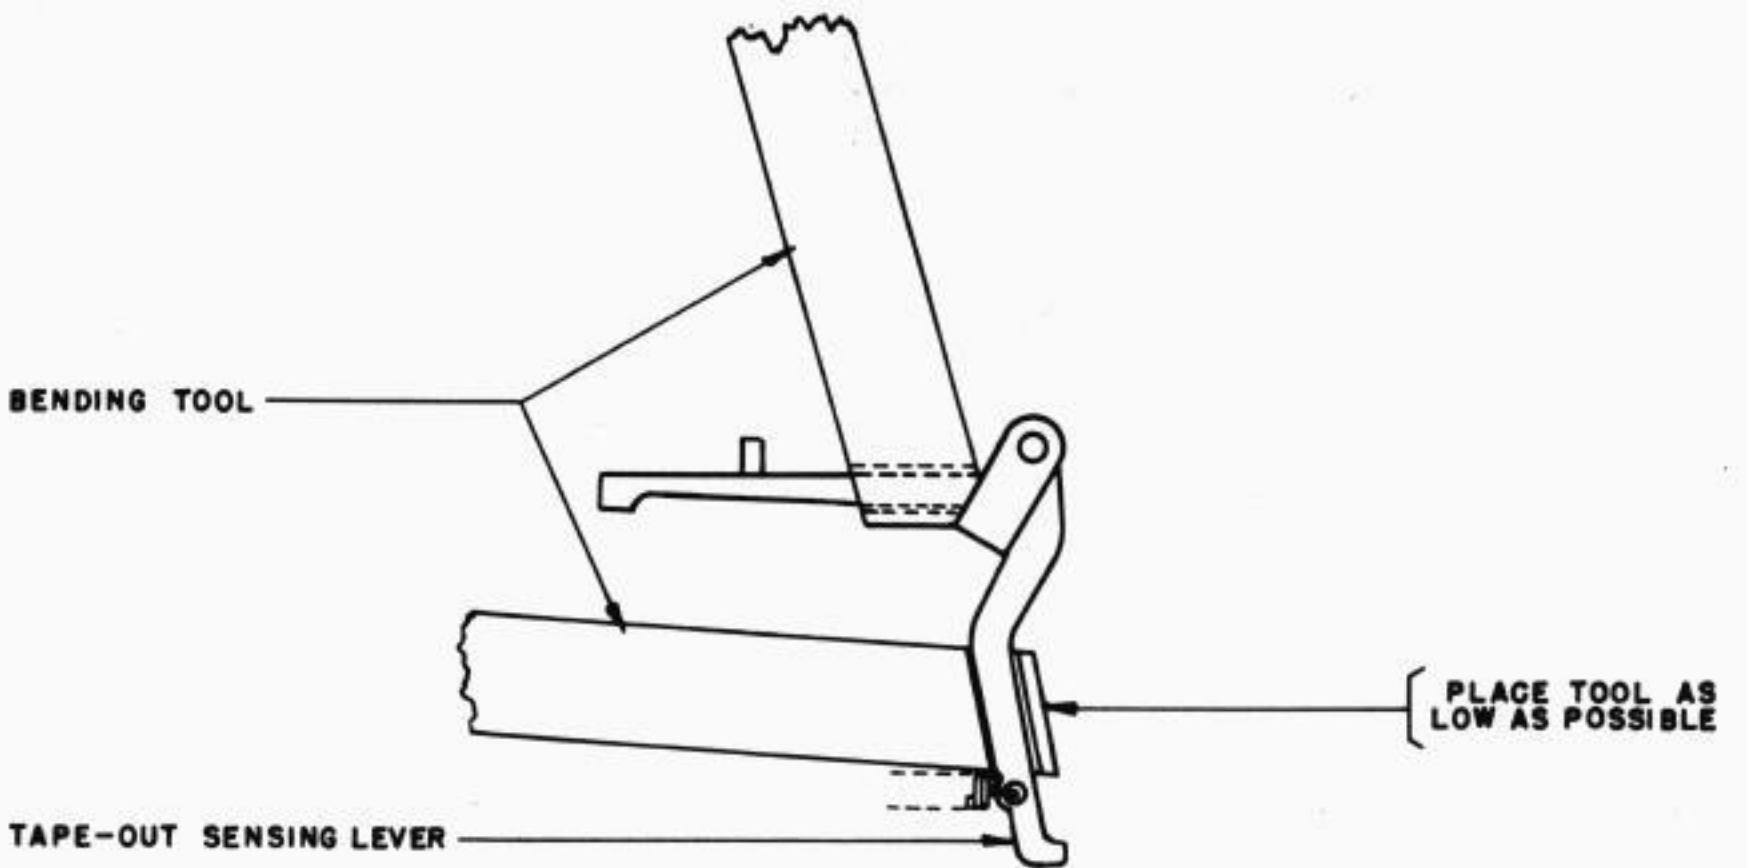
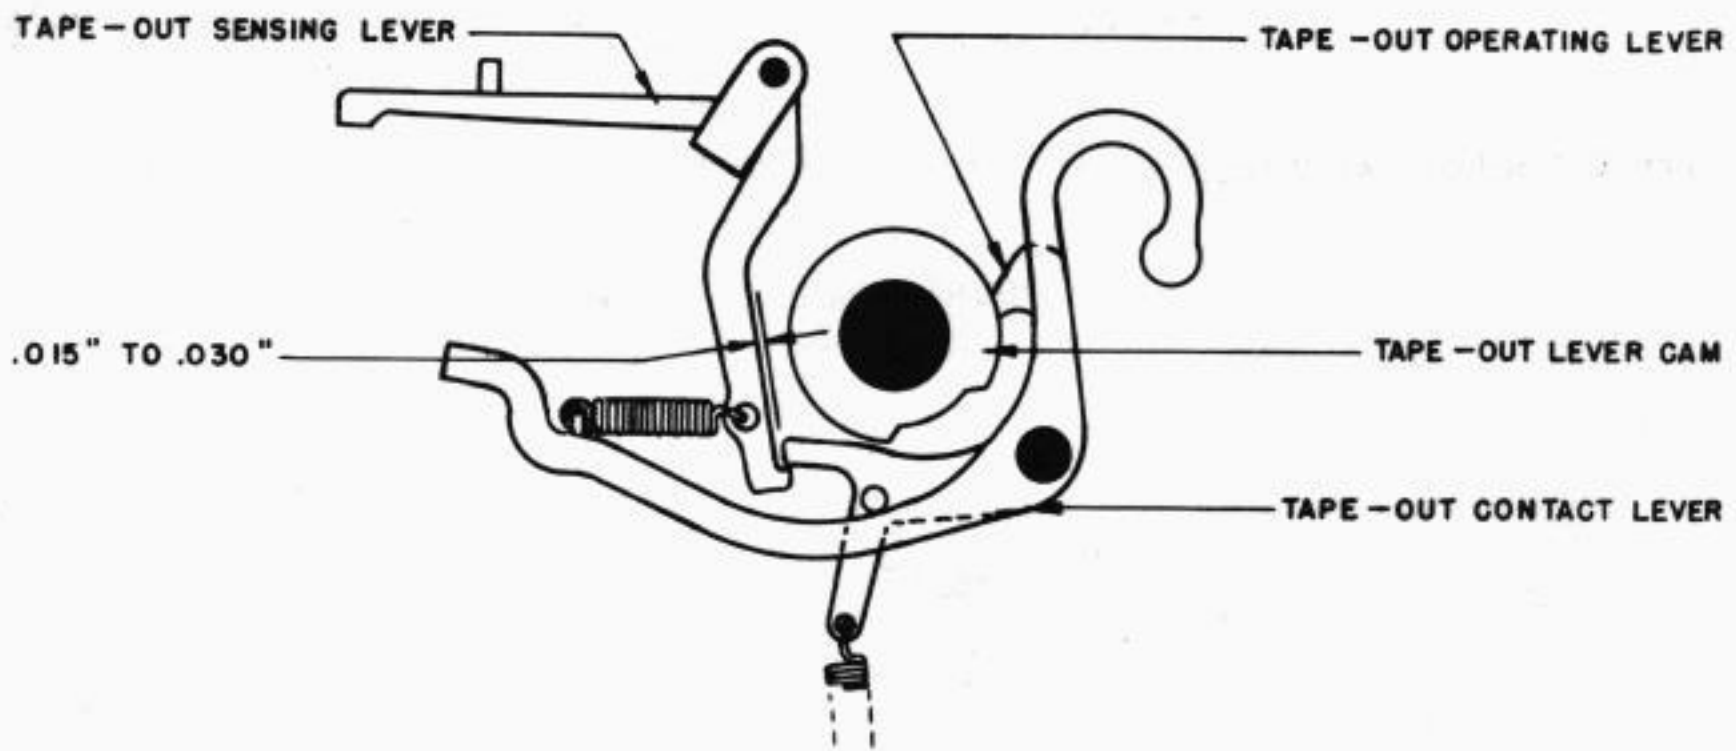

FIGURE 2
FIGURE 3
- (c) With the transmitting cam sleeve in its stop position, place the bending tools on the lever as shown in Figure 2 and bend the vertical leg of the sensing lever to obtain .015" to .030" clearance as shown in Figure 3.
- (1) TAPE-OUT CONTACT LEVER LATCH ADJUSTMENT.
- (2) TOP PLATE ADJUSTMENT
- (3) SELECTOR LEVER BAIL ADJUSTMENT
- (4) FEED PAWL LEVER ADJUSTMENT